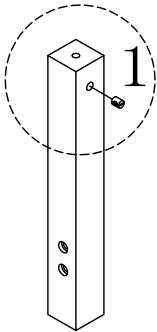

Figure 3
1. Insert the barrel nuts into the holes in each extender as shown in (Figure 3).